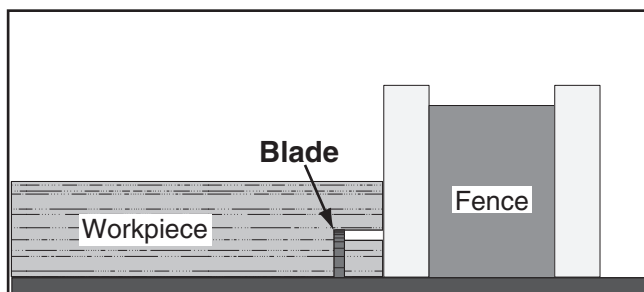

Figure 65. Example of second cut to create a rabbet.
7. Lay workpiece flat on table, as shown in **Figure 65**, adjust saw blade height to intersect with first cut, then perform second cut to complete rabbet.